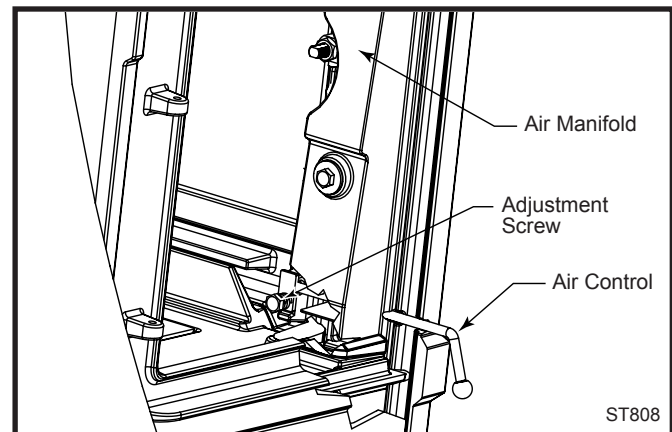

Fig. 34 Primary air control adjustment.
Over time, the air control may tighten or loosen. To adjust the tension on the control, let the stove cool to room temperature. Open the side-loading door and look in toward the inner side of the front panel of the stove. (Fig. 34) Locate the lower hex head bolts (A) on the primary air manifold rods on either side of the door. Adjust with a 7/16" wrench.
- Inspect for and remove ash build-up behind the combustion package. This should be done in conjunction with annual cleaning of the chimney connector since this inspection is most conveniently done through the flue collar opening. Inspect the passages to either side of the combustion package (a mirror will be helpful) and vacuum away ash using a flexible vacuum hose inserted into each passage. Care should be taken not to damage the white fibrous material in this rear chamber. (Fig. 34)